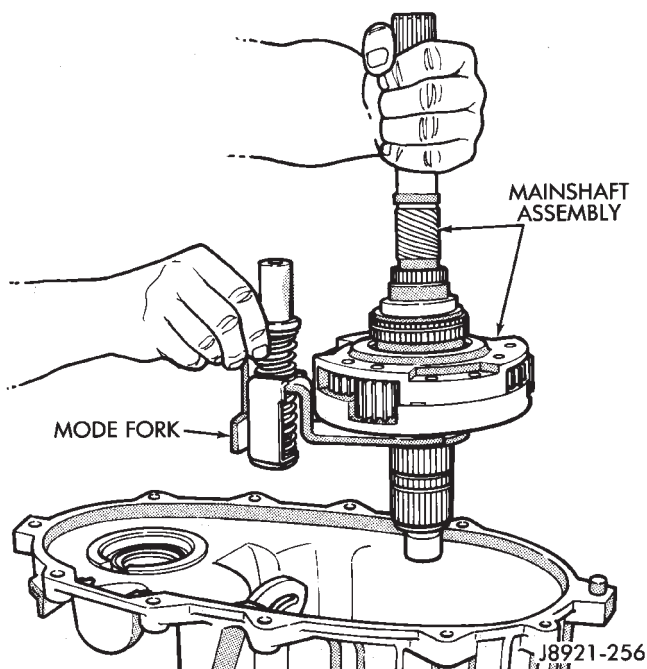

Fig. 64 Installing Mainshaft And Mode Fork
(41) Install mode fork and mainshaft assembly in case (Fig. 64). Rotate mainshaft slightly to engage shaft with low range gears.